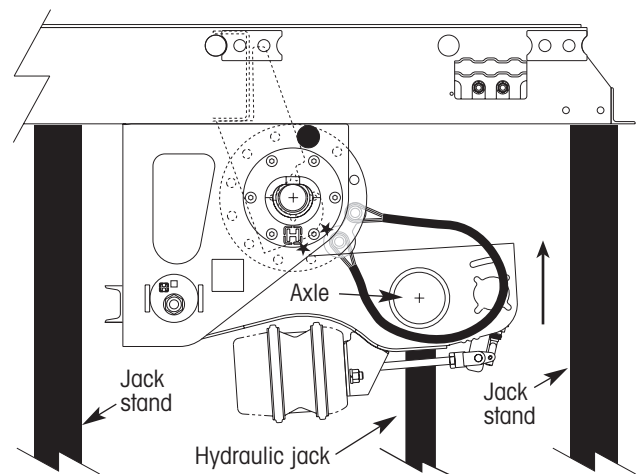

Figure 24. Raise the axle
5. Place a high-travel hydraulic jack under the axle and use the jack to independently raise the axle to the top of its travel (figure 24).